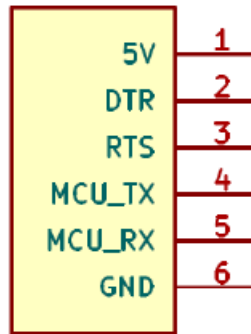

Figure 1: 6-Pin Debug Header (J2)
- **Figure 1:** 6-Pin Debug Header (J2)